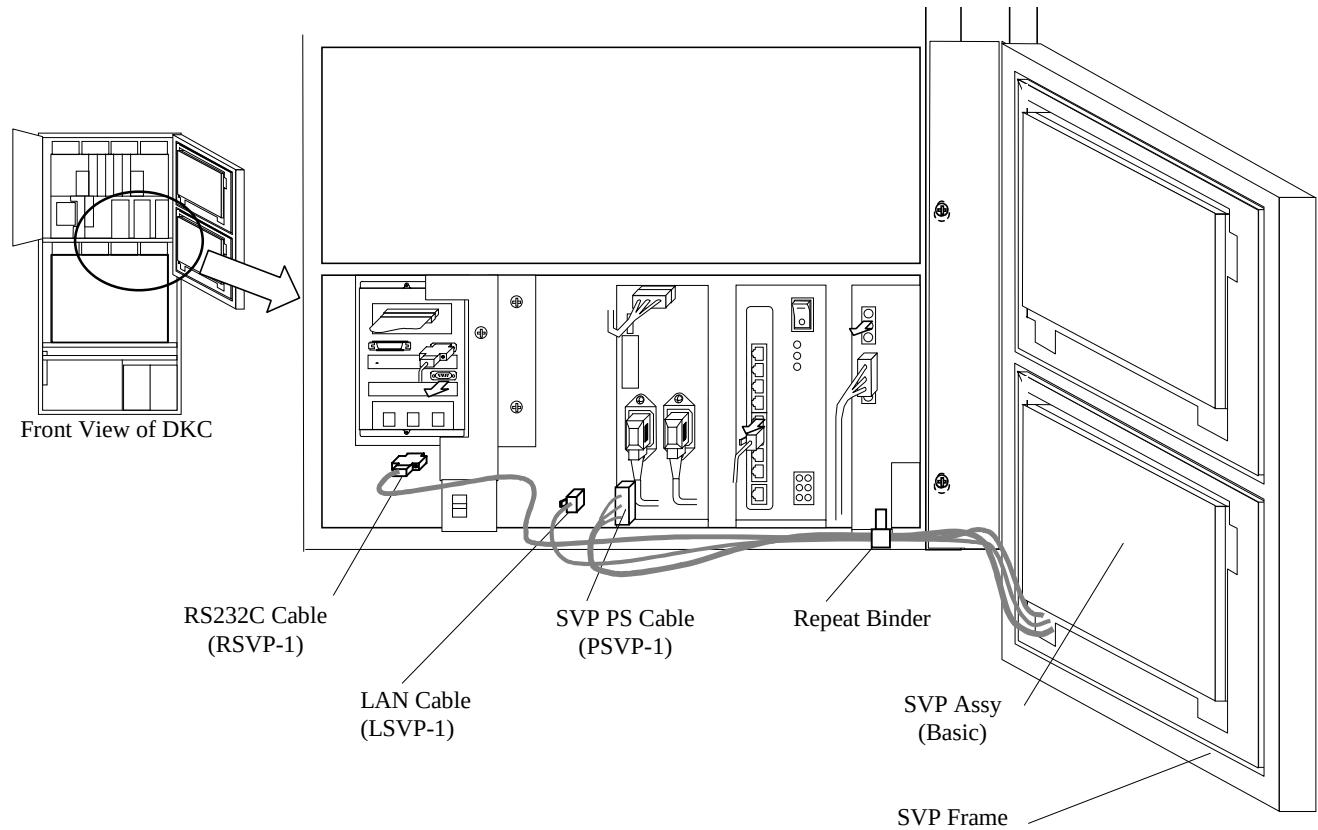

Fig. 3.18-7 Removal of Cables
- b. Attach the SVP ASSY cables to the RS CON PCB, HUB BOX and CON PLATE. And then close the repeat binder. (See Fig. 3.18-7 and 3.18-10.)